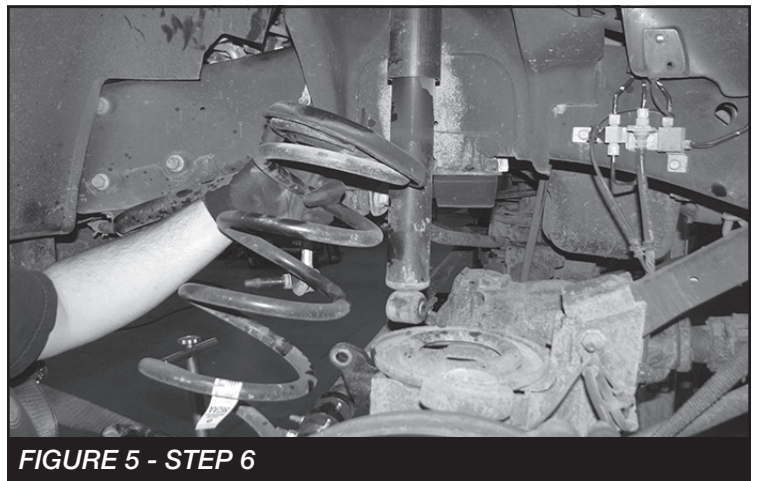

FIGURE 5 - STEP 6
6. Gently lower the front axle to remove the shock from the lower mount and remove the coil spring. **SEE FIGURE 5**